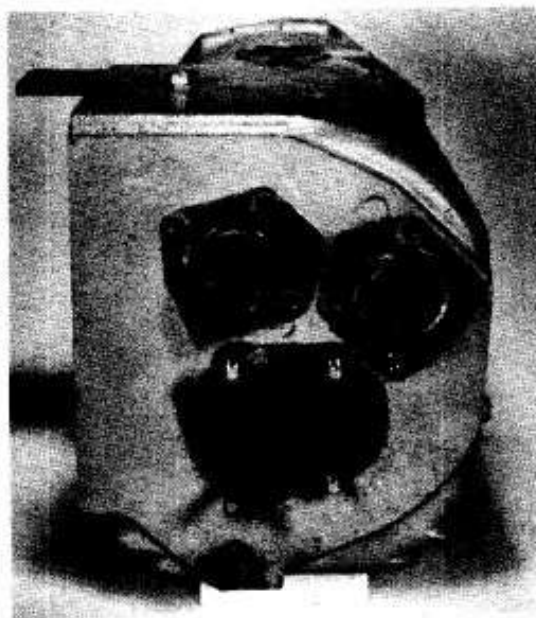

FIG. 6
5. INSTALL MAIN DRIVE SHAFT REAR BEARING CUP, SHIMS AND CAP. (REFER FIG. 6)